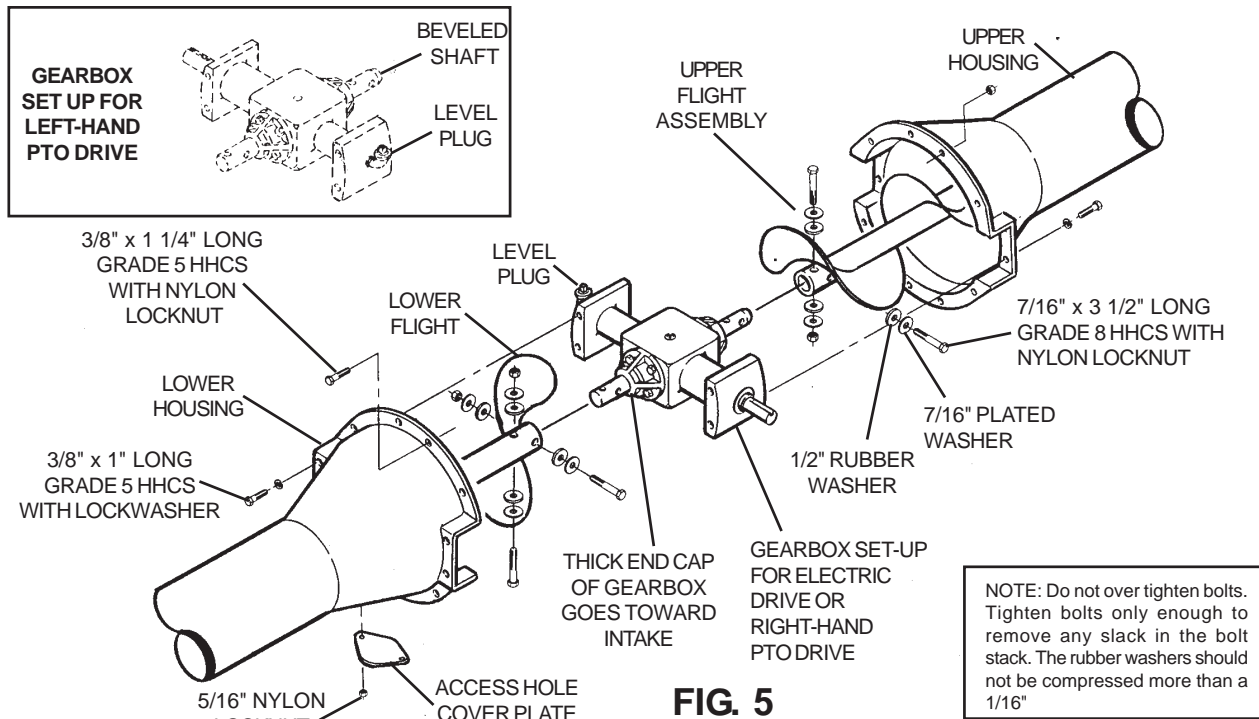

FIG. 5
NOTE: **If the unit is to be PTO driven**, the drive can be assembled on either the right or left side of the auger. Fig. A on page 10 shows a PTO drive installed on the right-hand side. The gearbox is shipped ready for right hand installation. See Fig. 5. To convert it for left-hand installation, rotate the gearbox filler elbow 180° (so it will be pointing up after the gearbox is installed). See inset, Fig 5.
NOTE: **If the unit is to be motor driven**, the gearbox is ready to assemble as shown in Fig. 5. and must not be converted.
4. Connect the upper gearbox shaft to the upper flight assembly using two 7/16" x 3-1/2" long (grade 8) hex head capscrews, four 1/2" rubber washers, four 7/16" washers and two locknuts. Tighten the locknuts only enough to slightly compress the 1/2" x 1/4" thick rubber washers. **DO NOT** compress the washers more than 1/16" (Fig. 5.) NOTE: Observe the gearbox end caps where shafts will connect to flight. The thicker end cap must face intake end.
6. Connect the lower flight to the gearbox with two 7/16" x 3-1/2" long (grade 8) hex head capscrews, four 1/2" rubber washers, four 1/2" washers and two locknuts. See Fig. 5 and 6.
7. Bolt the lower drive housing to the gearbox with four 3/8" x 1" long (grade 5) hex head capscrews and lockwashers. See Fig. 5 on previous page. When joining the drive housings, be careful to align the flight tail stub with the bronze bearing located on the intake guard.